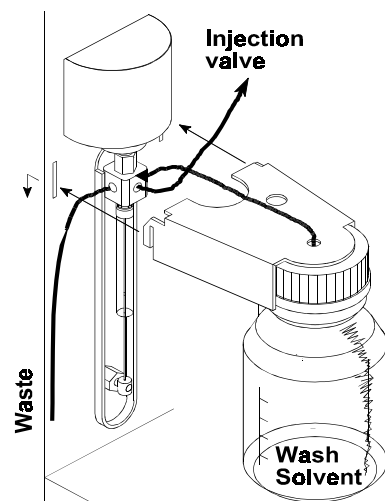

FIGURE 2-8. Wash Solvent Bottle
- c) Place the holder in the microautosampler as indicated in FIGURE 2-8.